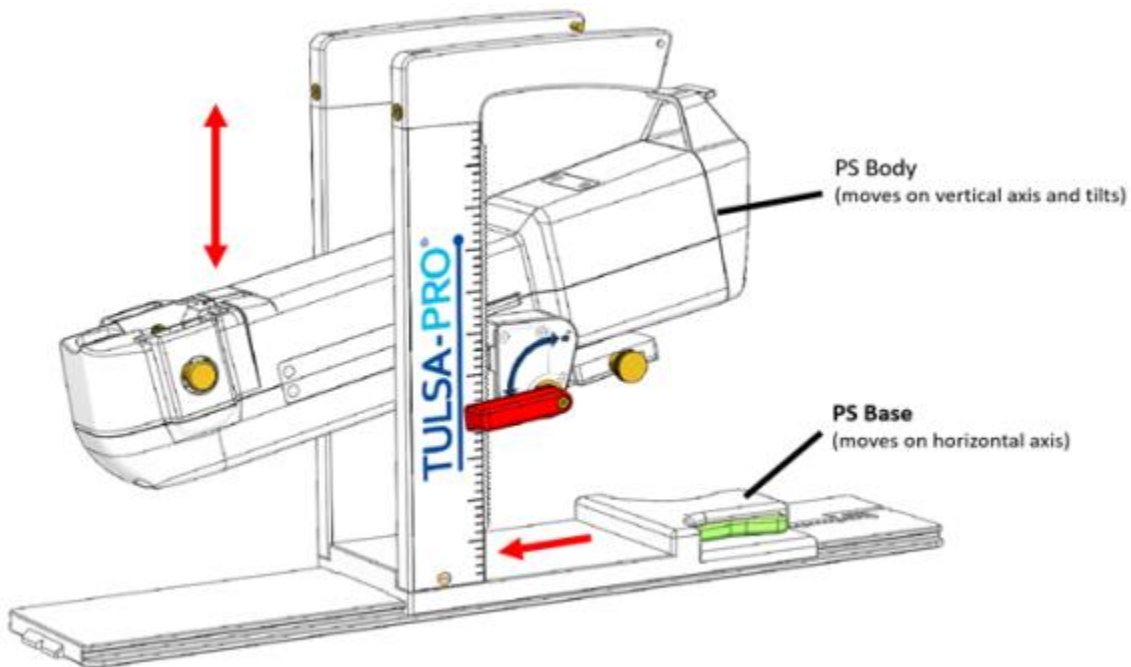

Figure 23: Adjusting the Positioning System
3. **MRI Technologist:** Manually move the PS into position so that the UA gripper aligns with the natural angle of the UA in the patient. Manually adjust the base of the PS forward and backward and up and down, and tilt the linear axis of the PS up and down (*Figure 23*).
NOTE: The PS adjustment knobs and levers are not colored as in *Figure 23*, but are colored here to help with these instructions.